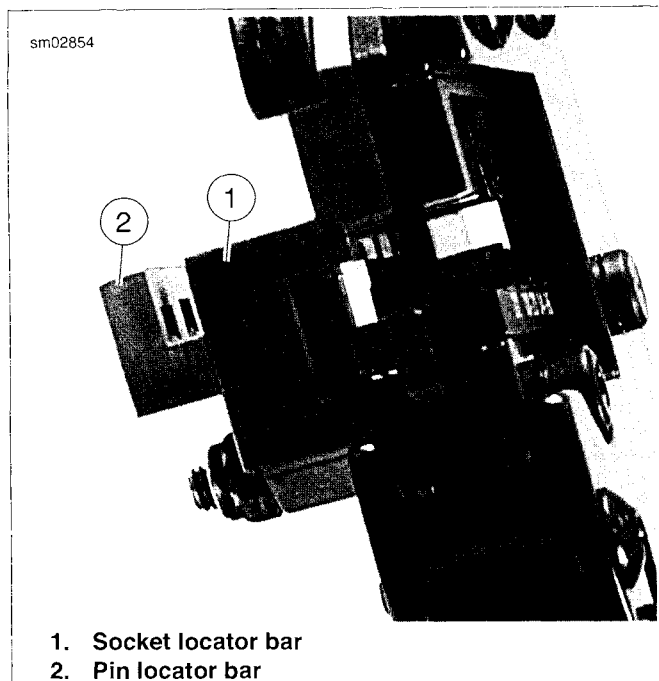

Figure A-31. Terminal Locator Bars
- a. **Socket Terminal:** See Figure A-31. A socket terminal stops against the back face of the socket locator bar (1).